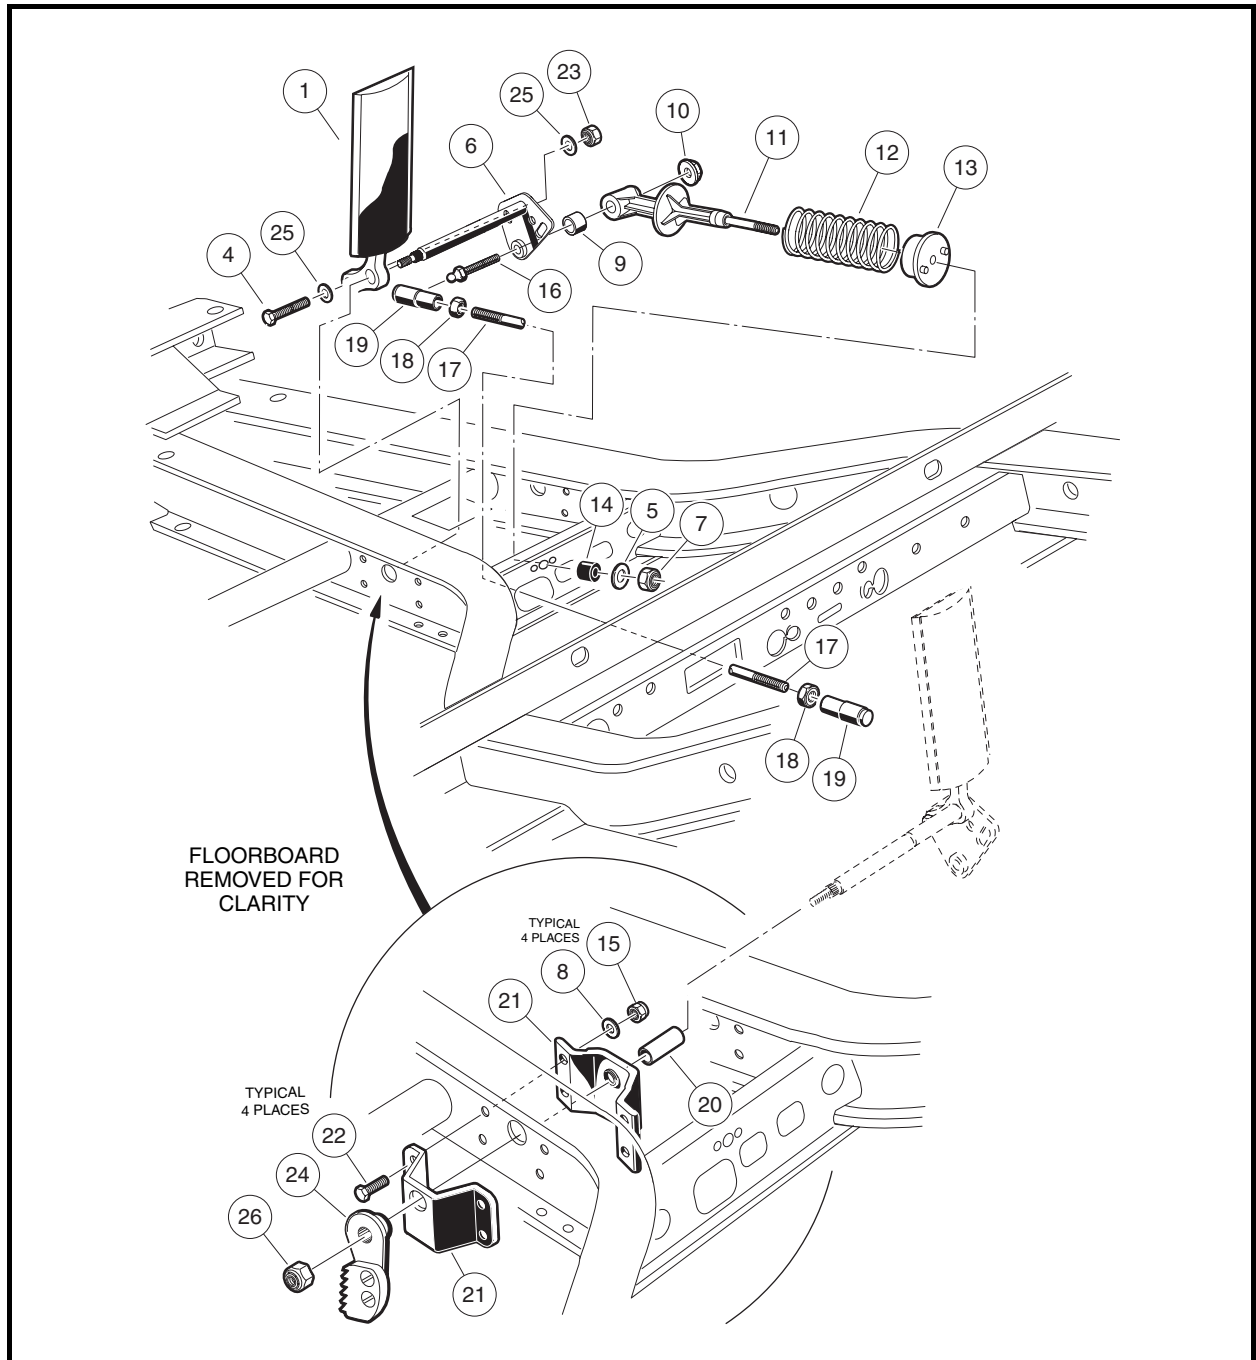
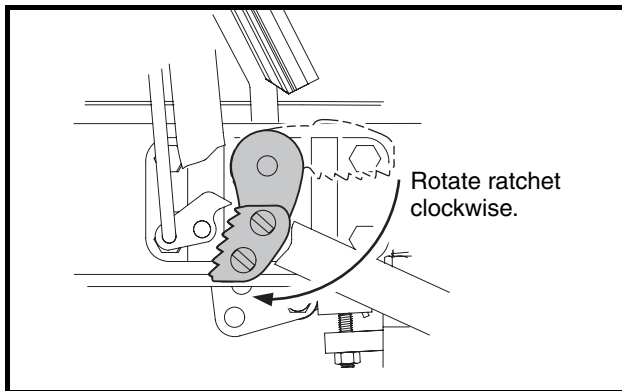

Figure 5-5 Accelerator Pedal Assembly – Gasoline Vehicles
Figure 5-6 Ratchet Installation
3. Disconnect the accelerator rod assembly (17, 18, and 19) (**Figure 5-5, Page 5-6**) at the front and rear ball studs and remove it from the vehicle.
4. Use a 9/16-inch socket and 9/16-inch wrench to remove the nut (23), two washers (25), and bolt (4) securing the accelerator pedal (1) to the pivot rod (6).
5. Remove the nut (10) and ball stud (16) from the accelerator pivot rod assembly (6).
6. Slide the spring retainer (11) off of the accelerator pivot rod.
7. Inspect the pivot support bearing (9) for wear and replace if necessary.
8. Use a marker to mark the position of the park brake ratchet (24) on the accelerator pivot rod (6). See following **NOTE.**
9. Remove the lock nut (26) from the accelerator pivot shaft (**Figure 5-5, Page 5-6**).
10. Press the brake pedal slightly and slide the park brake ratchet (24) toward the end of the accelerator pivot rod. Rotate the ratchet and remove it from the pivot rod.
11. Remove the pivot rod (6) and spacer (20) from the accelerator pivot rod supports (21).
1. If the accelerator pivot rod supports were replaced, position the supports (21) on the vehicle frame and install the four bolts (22), flat washers (8), and lock nuts (15). Finger-tighten nuts at this time (**Figure 5-5, Page 5-6**).
2. Insert the lower end of the accelerator pedal (1) through the floorboard and install the accelerator pivot rod (6) through the uppermost hole in the pedal.
3. Install the plastic spacer (20) on the pivot rod.
5. Tighten the four bolts (22) attaching the pivot rod supports to the frame to 75 in-lb (8.5 N·m).
6. Insert the bolt (4), with washer (25), through the lower hole in the pedal and through the pivot rod. Secure with washer (25) and new lock nut (23) (**Figure 5-5, Page 5-6**). Finger-tighten lock nut at this time.
7. Install the ball stud (16) through the pivot rod. Install the spring retainer (11) onto the ball stud. Secure these parts with the nut (10). Tighten the nut to 50 in-lb (5.5 N·m).
8. Press the brake pedal slightly, and with the park brake ratchet oriented so that the tip of the ratchet is pointed toward the rear of vehicle, slide the ratchet onto the pivot rod (do not slide the ratchet onto the pivot rod splines). Release the brake pedal and allow the ratchet to rotate until its tip is pointed downward (**Figure 5-6, Page 5-7**). The ratchet should now rotate freely on the rod.
11. Install the lock nut (26) on pivot rod and tighten the nut to 18 ft-lb (24.5 N·m) (**Figure 5-5, Page 5-6**).